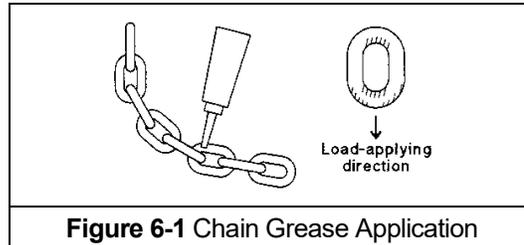

Figure 6-1 Chain Grease Application
- Apply Harrington Hoist, Inc. lubricating grease (Part No. ER2CS1951) or an equivalent to industrial general lithium grease, NLGI No. 0, to the bearing surfaces of the load chain links as indicated by the shaded areas in **Figure 6-1**. Also apply the grease to the areas of the load chain (shaded areas in **Figure 6-1**) that contact the load sheave. Ensure that the grease is applied to the contact areas in the load sheave pockets.